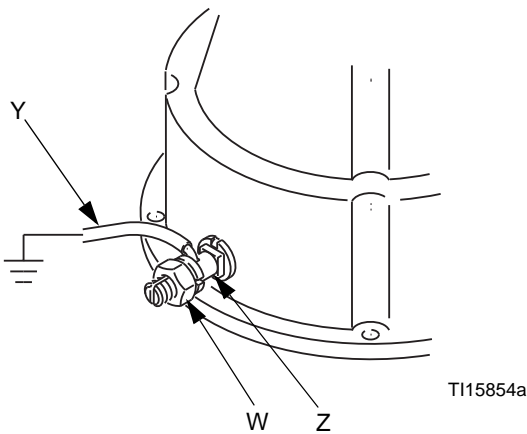

FIG. 1 Ground Wire
Pump: use a ground wire and clamp. See FIG. 1. Loosen the locknut (W) of the grounding lug (Z). Insert one end of the wire (Y) in the ground lug and tighten the locknut securely. Connect the ground clamp to a true earth ground. Order Part No. 237569, Ground Wire and Clamp.